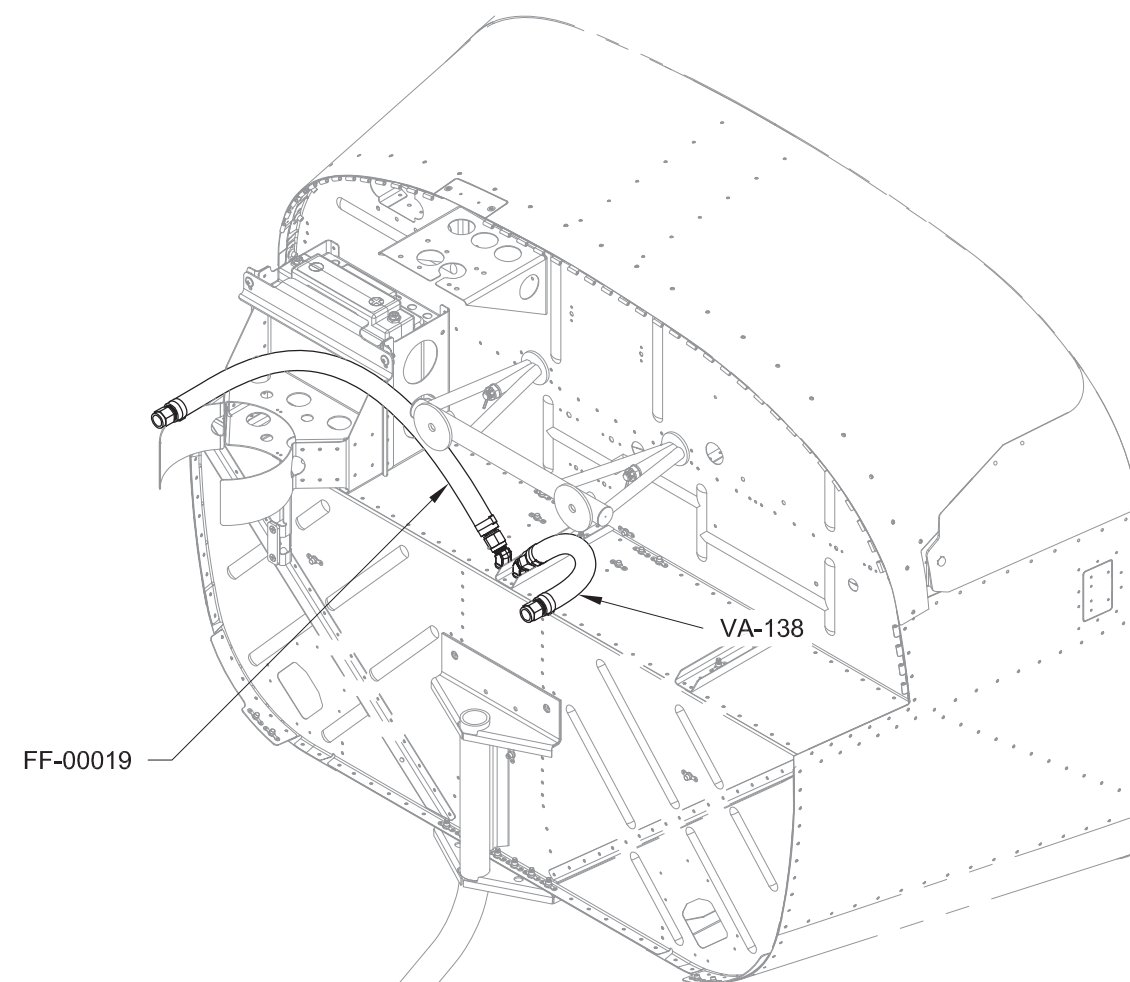

FIGURE 1: CONNECT FUEL HOSES TO FUSELAGE
Step 1: Connect the VA-138 and FF-00019 to the elbow fittings as shown in Figure 1.